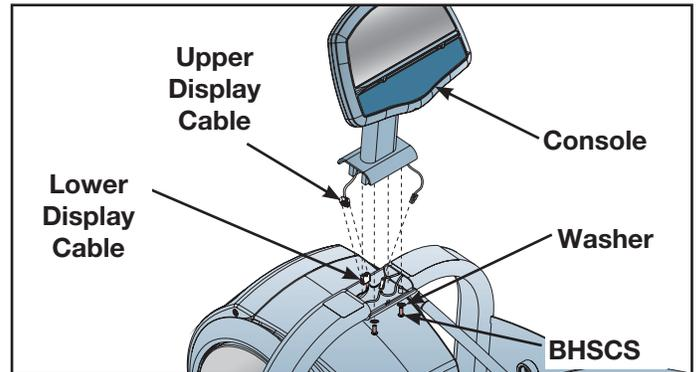

Figure 1
- A. Main Frame Assembly (1)
- B. Foot Pad (2), **11090-405**
- C. CE Decal (1), CM000242
- D. Loctite 242 (2), **YA000201**
B. While the unit is elevated, turn the main power switch to the off (0) position and unplug the power cord from the power outlet.
A. Using a 7/32" Allen wrench, remove the four .375-16 x 1.50 BHCS (Button Head Cap Screw) and four washers. See Figure 1.